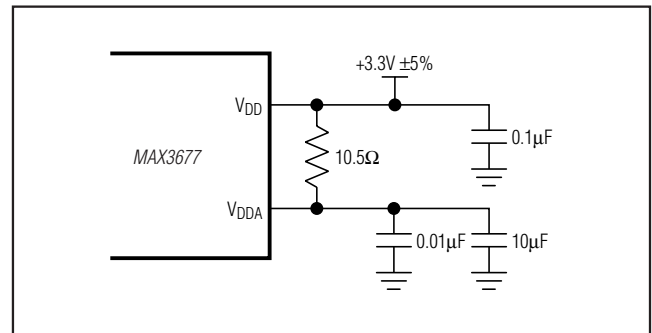

Figure 4. Analog Supply Filtering
- Note 1:** A series resistor of up to 10.5Ω is allowed between V_{DD} and V_{DDA} for filtering supply noise when system power-supply tolerance is $V_{DD} = 3.3V \pm 5\%$. See Figure 4.
The MAX3677 is a mixed analog/digital IC. The PLL contains analog circuitry susceptible to random noise. To take full advantage of on-board filtering and noise attenuation, in addition to excellent on-chip power-supply rejection, this part provides a separate power-supply pin, V_{DDA} , for the VCO circuitry. The purpose of this design technique is to ensure clean input power supply to the VCO circuitry and to improve the overall immunity to power-supply noise. Figure 4 illustrates the recommended power-supply filter network for V_{DDA} . This network requires that the power supply is +3.3V \pm 5%. Decoupling capacitors should be used on all other supply pins and placed as close as possible to the pins for best performance.